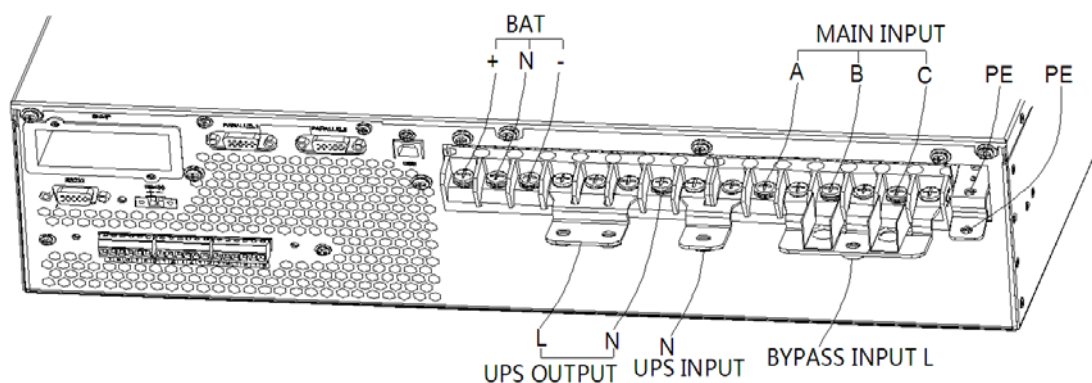

Fig. 3-18 Wiring diagram of 3 phases in 1 phase out, dual input
- 2、 As shown in Figure 3-18, use No.5 copper bar to connect bA, bB, bC terminal, use No.7 copper bar to connect BATN, oN, bN, mN terminal, use No.4 copper bar to connect oA, oB, oC terminal.